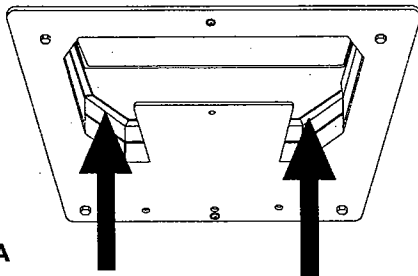

FIG. 14A
- Place divider plate up to bottom of air conditioner/heat pump base pan firmly. The foam tape on the divider plate must seal to bottom of base pan. See FIG. 14A.